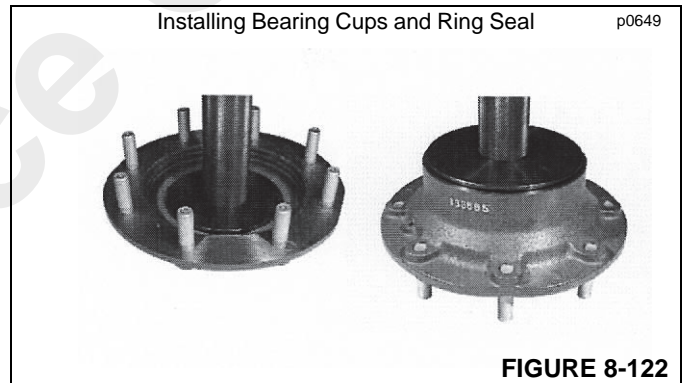

FIGURE 8-122
- Place the wheel hub on a workbench and install the two taper roller bearing cups with SPECIAL TOOL (Figure 8-27) and a press or hammer (Figure 8-122).